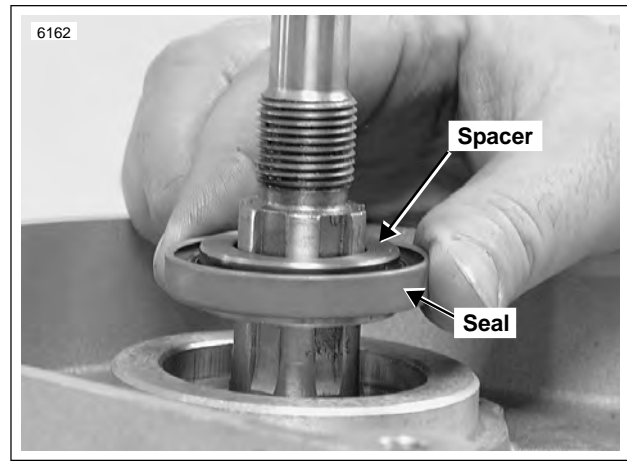

Figure 3-137. Install Spacer in Seal
10. See Figure 3-137. Install **new** spacer in seal ID. With the open (lipped) side facing outward, center seal/spacer assembly over bearing bore.